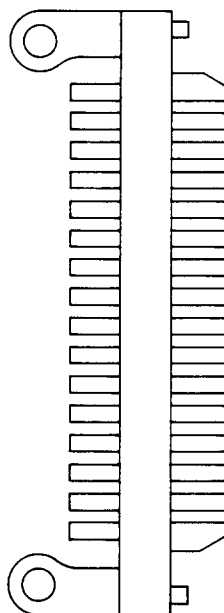

Fig. 1—501A Plug
2.01 501A: The 501A plug (Fig. 1) consists of a molded block of insulating material containing terminals that are intended for solder connections in the rear. The 501A plug is equipped with mounting lugs to be mounted to a printed wiring board. This plug has 16 terminals and is used on the J99253, E6 Repeater.